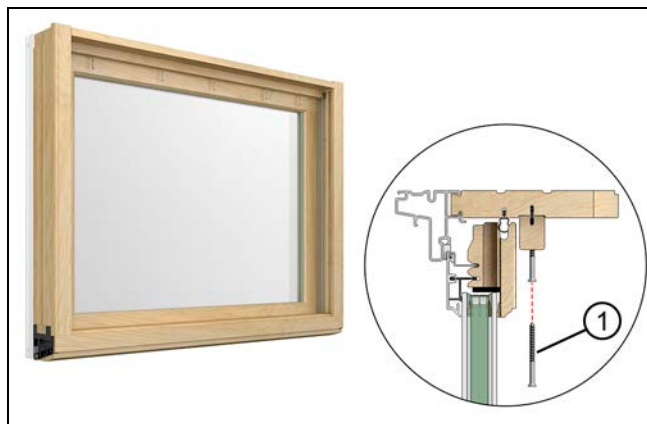

Figure 76
7. **For IZ3 Transoms**, drive #6 x 1 5/8" trim head screws through the parting stop and into the head jamb. Space the screws 2-4" (51-102) from the ends and 6-8" (152-203) on center. See Figure 76.